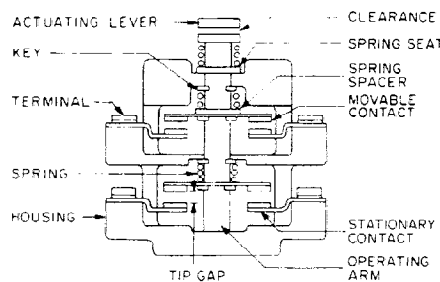

Fig. 14. Interlock block with normally closed contacts in energized position of contactor
When circuits are rearranged to obtain one normally open and one normally closed circuit, re-assemble parts as shown in Fig. 14 to assure proper electrical creepage between the two circuits.
The interlock should be positioned on its bracket so that with the contactor in its energized position, the interlock plunger, Fig. 14, should not bottom, and with the contactor in its de-energized position, there should be some clearance (C) between the interlock plunger and the interlock operating arm, Fig. 14.